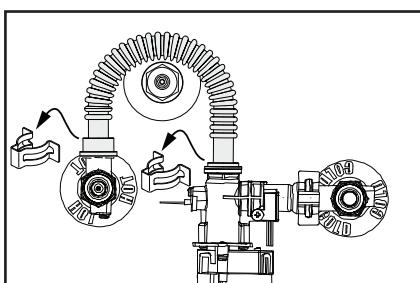

Figure 31 - Flex hose spring clips removal.
- 3** With the shroud removed, gently remove the spring clips (2) securing the flex hose to the smart valve hot t-nipple. Place components safely to the side.
**NOTICE:** DO NOT bend the flex hose. Take note of the orientation in which the flex hose is installed to the smart valve. The flex hose will need to be reinstalled correctly in order to function properly. See Figure 31.